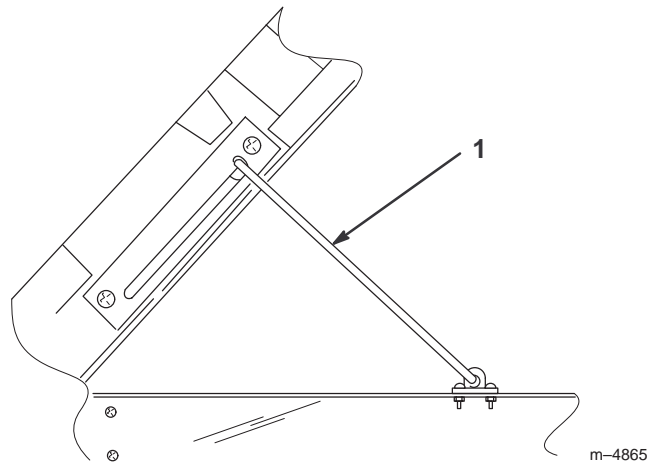

Figure 11
3. Raise the bed to its full height; then lower it slightly to engage the prop rod (Fig. 11).